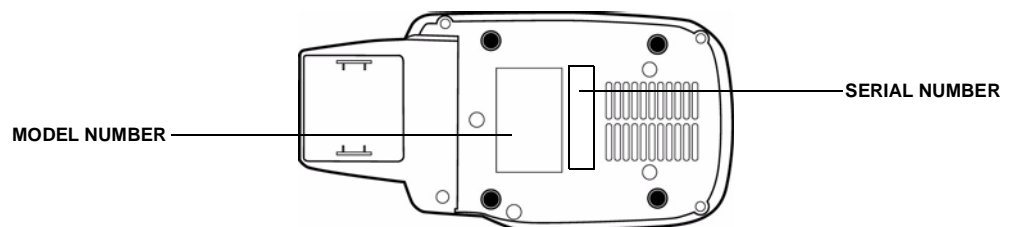

Figure 14 Information Labels on Terminal Bottom
- 1 Gather the following information from the printed labels (see Figure 14) on the bottom of *each* Omni 3200SE/3210SE terminal to be returned:
- VeriFone serial number assigned to the Omni 3200SE/3210SE terminal you are returning for service or repair (terminal serial numbers are located on the bottom of the unit (see Figure 14).